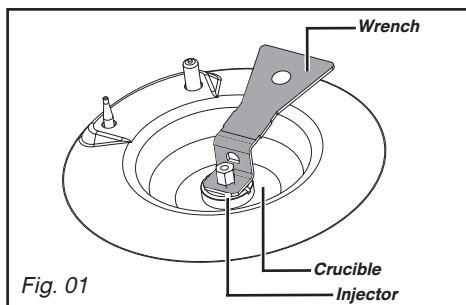

Fig. 01
– **Connection with a flexible metal hose** (stainless steel) **with screw-on mechanical connectors** (compliant with NF D 36-125 standard) whose service life is unlimited (Fig. 01).
– Using the wrench provided, unscrew the injectors located under each crucible and remove them (Fig. 01).